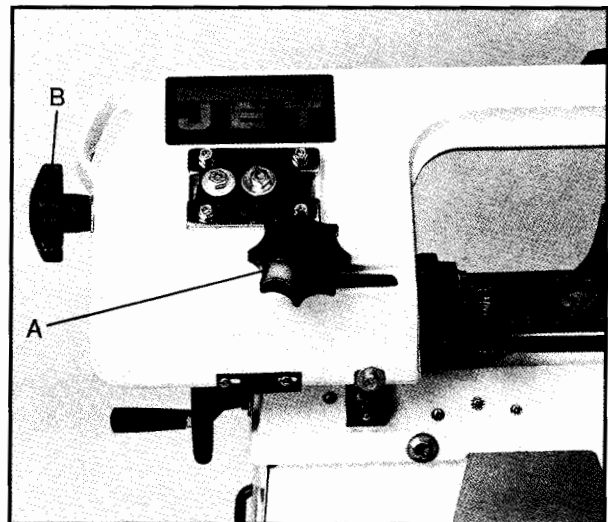

Fig. 10
3. If the blade is next to the wheel flange, loosen the blade guide assembly lock knobs (A - Fig. 10) and slide the blade guide assemblies as far apart as possible. Lock in place.
4. Depress blade. Finger pressure should cause approximately .004" deflection. Turn blade tension knob (B) until the proper tension is achieved.